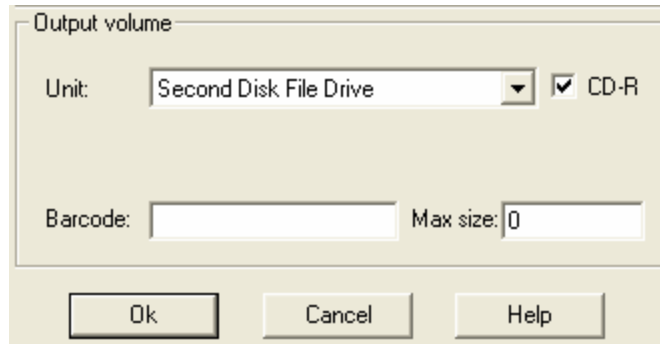

Figure 24: Open Unit/Output Volume Block with CD-R Box Checked
- If the CD-R box is checked, the output will be written to a CD-R. This block is shown in Figure 24: Open Unit/Output Volume Block with CD-R Box Checked.